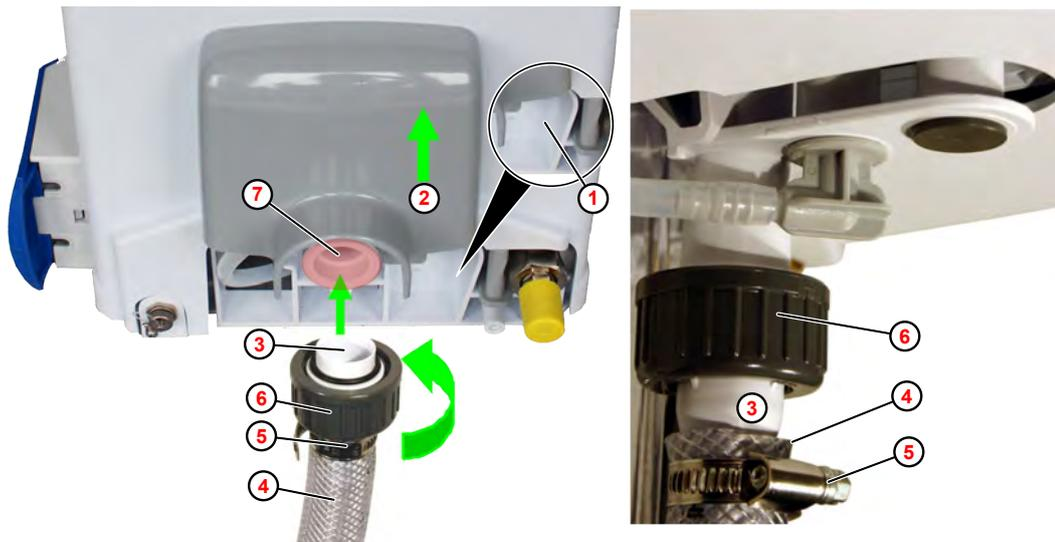

Fig. 5: Product feed line to the dishwasher
- 6.** Hold down the release tab of the funnel lock (Fig. 5 , ①).
- 7.** Push the funnel lock ② upwards and remove it.
- 8.** Slide the union nut ⑥ over the connecting nipple ③ .
- 9.** Slide the hose clamp ⑤ over the product feed line ④ .
- 10.** Slide the product feed line ④ onto the connection nipple ③ .
- 11.** Tighten the hose clamp ⑤ .
- 12.** Connect the product feed line ④ to the funnel outlet ⑦ and tighten the union nut clockwise.
13. ➤ Connect the product feed line ④ to the tank connection.